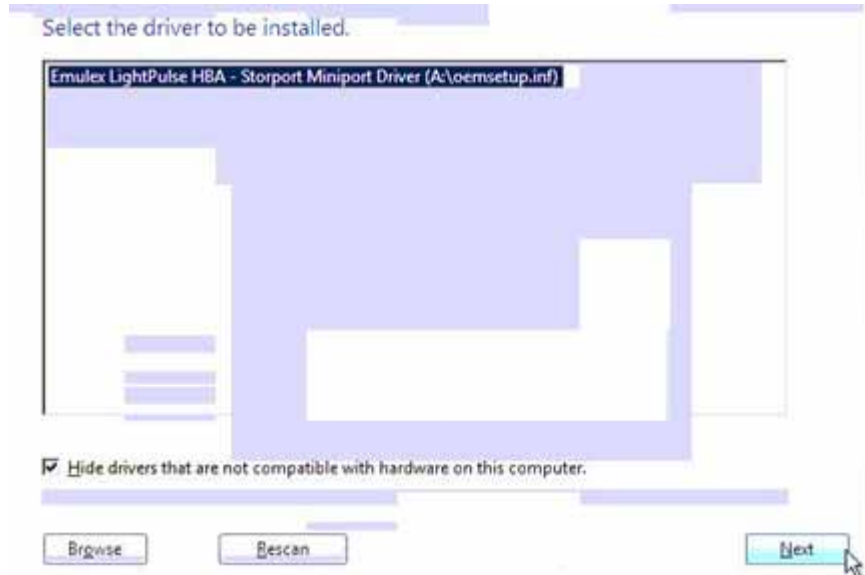

Figure 48 Specifying a driver for your adapter
11. Select your USB jump-drive (Figure 48).